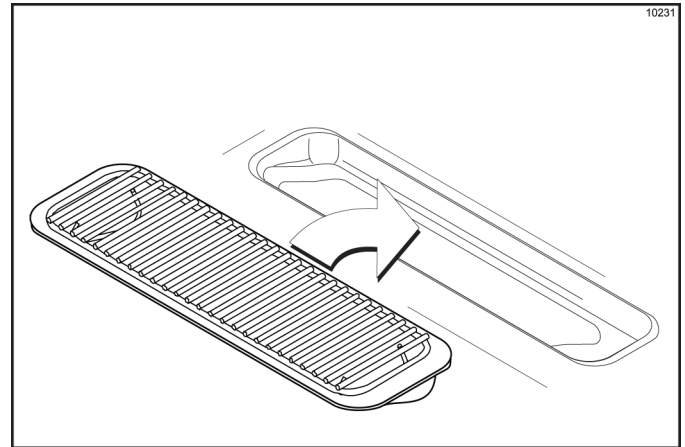

Figure 6-21
22. Install the front drip tray and splash shield under the door spout. (See Figure 6-21.)